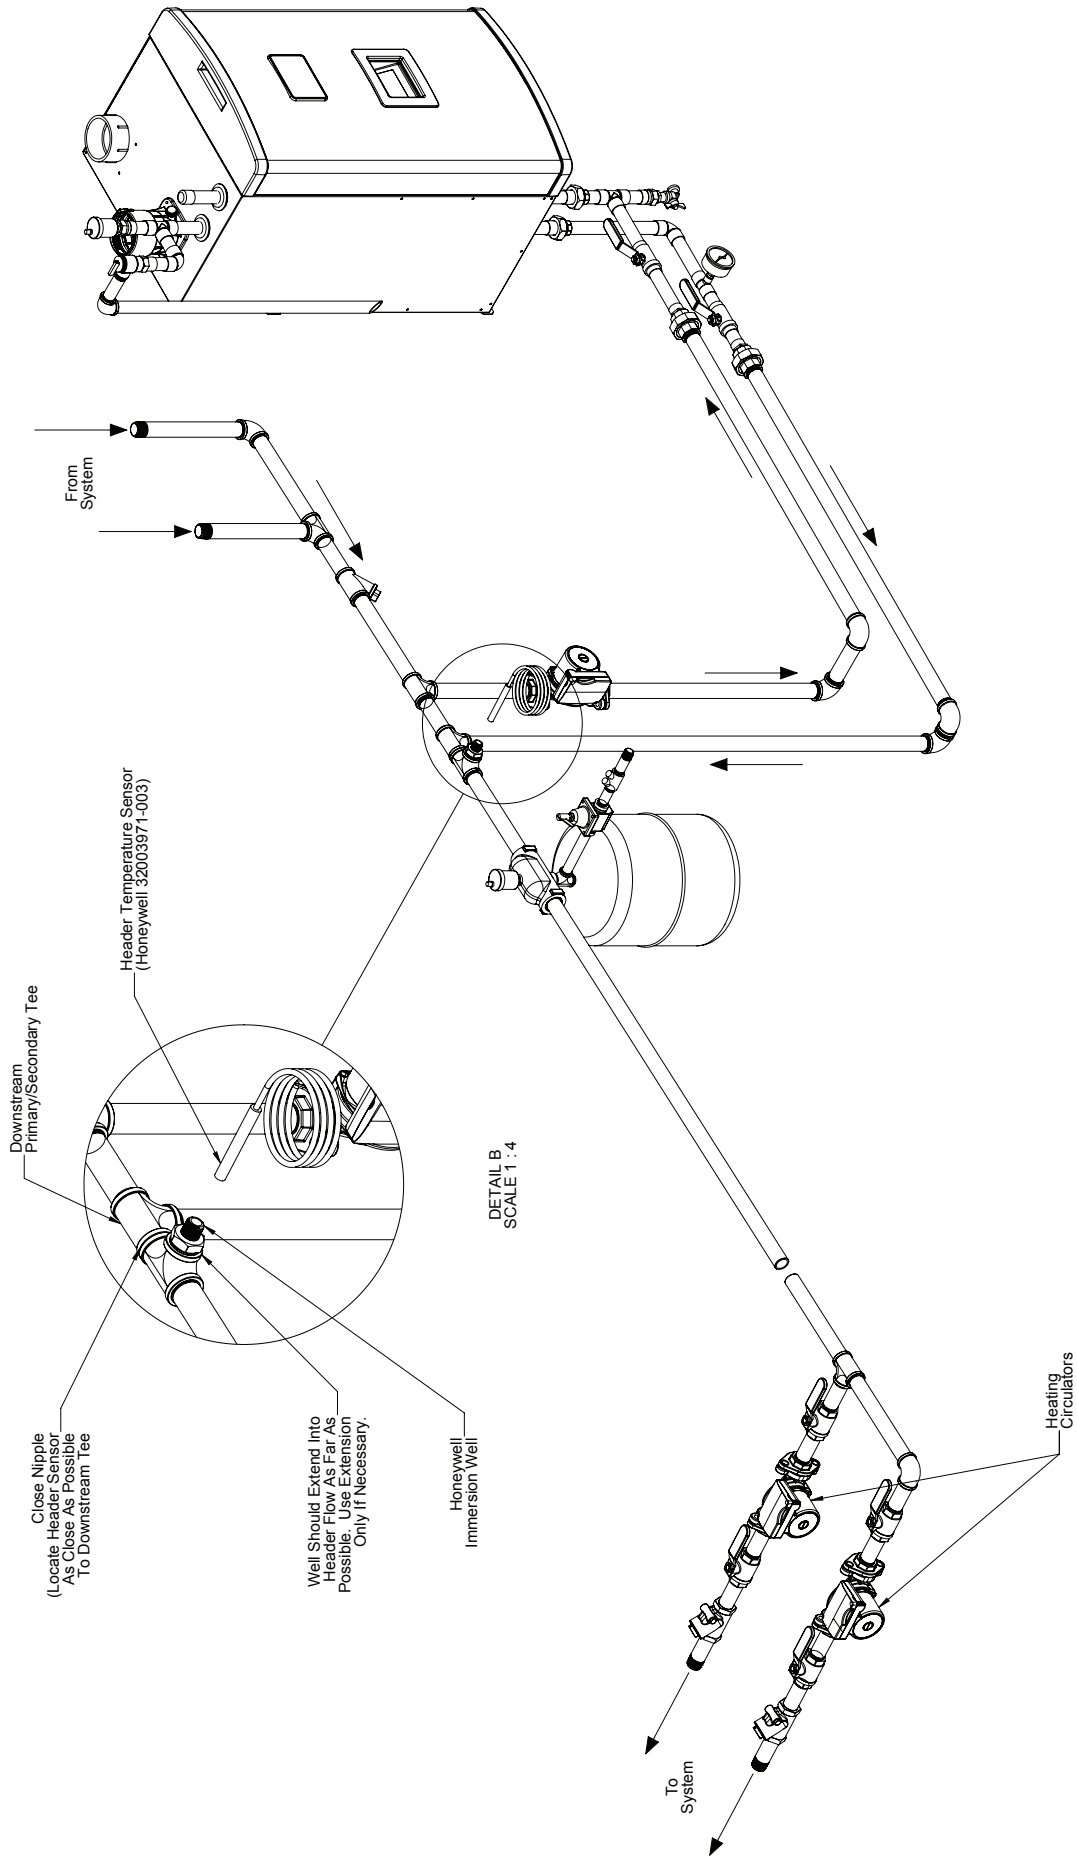

Figure 10.4: Proper Installation of Header Sensor
- e) Header Sensor - When this sensor is installed and enabled, the boiler will attempt to maintain the target water temperature in the header rather than in the supply. Where the system flow rate varies widely, the use of a header sensor allows the temperature of the water being sent to the radiation to be more accurately controlled. Use sensor P/N 103104-01 (Honeywell 32003971-003) with 1/2" NPT immersion well, P/N 80160456. Installation of this sensor in a well, as opposed to on the surface of the header, is highly recommended. Alternatively use 1/2" NPT direct immersion sensor, P/N 101935-01. Locate this sensor immediately downstream of the second primary-secondary Tee (Figure 10.4). Use of a direct immersion sensor is also acceptable. The sensor wiring should be routed away from sources of electrical noise. Where it is impossible to avoid such noise sources, wire the sensor using a 2 conductor, UL Type CM, AWM Style 2092, 300Volt 60°C shielded cable. Connect one end of the shielding on this cable to ground. See Section XII “Operation” for information on enabling the header sensor.